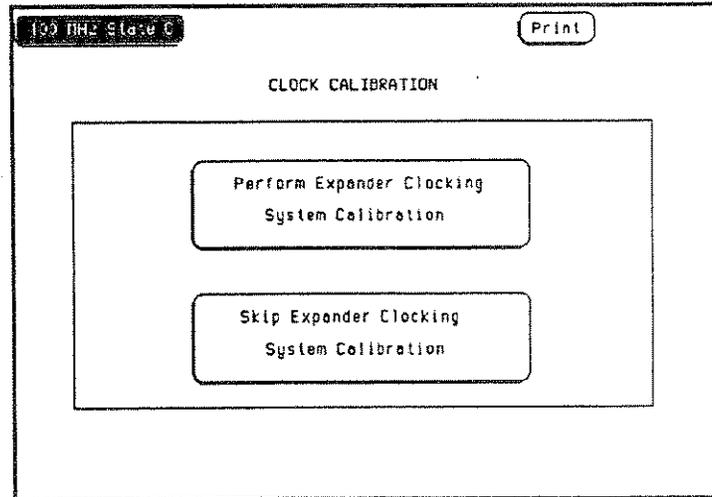

Figure B-10. Expander Clocking Calibration
7. The expander clocking system can be calibrated or skipped, as shown in figure B-10.